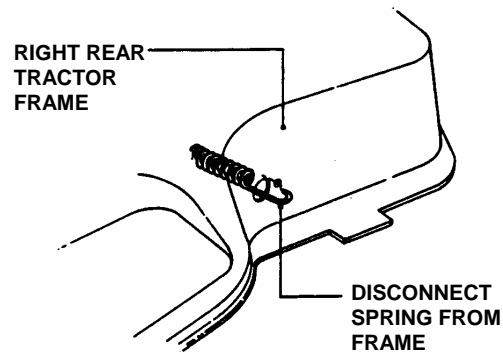

FIGURE 4.32
- 3. Disconnect traction belt idler pulley spring from tractor frame. See Figure 4.32.